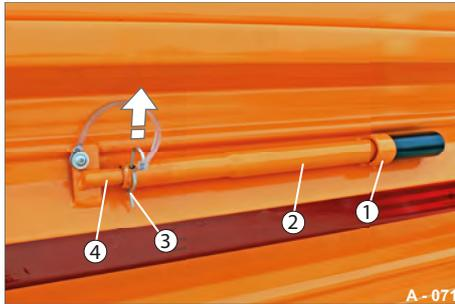
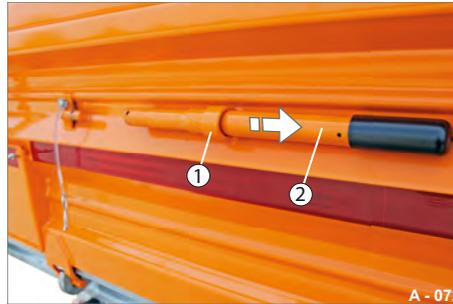

Fig. 93 Operating lever, secured
Fig. 94 Removing operating lever
- ▶ Remove the spring pin (Fig. 93/3). The operating lever (Fig. 93/2) is unlocked.
- ▶ Carefully pull the operating lever (Fig. 94/2) out of the holder (Fig. 94/1).
- ▶ Stick the spring pin (Fig. 93/3) into the bore hole of the retaining bolt (Fig. 93/4).
- ▶ Press the operating lever through the holder (Fig. 94/1) onto the retaining bolt (Fig. 93/4).
The operating lever is secured (see page 167 / Fig. 93).